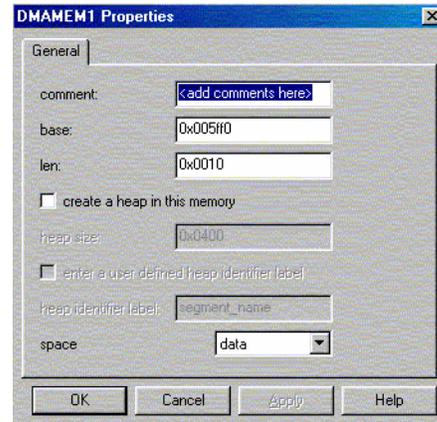

Figure 6 DMAMEM1 Section Defined
- Right click on DMAMEM1 and set properties as shown in Figure 6. Notice that here also the *len* property is set to 0x10 (16d). Since the DMAMEM1 section is 16 words long, the buffer size can be up to 16 words long.